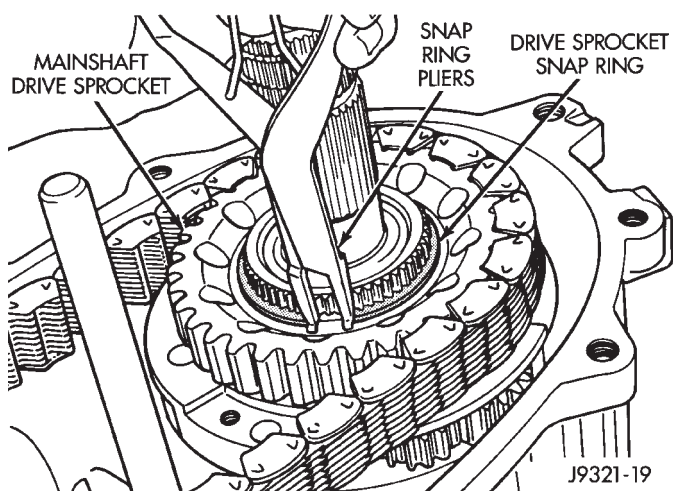

Fig. 82 Installing Drive Sprocket Snap Ring
(5) Install drive sprocket snap ring (Fig. 82).